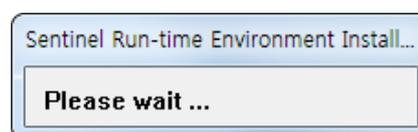

Figure 2.16 Installation of dongle Driver
- Installation status of the dongle driver will be displayed as shown in Figure 2.16.